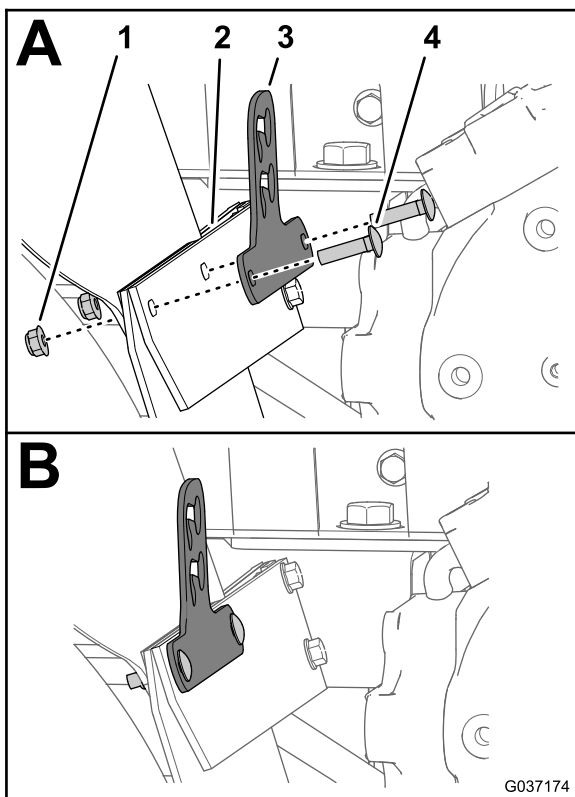

Figure 10
3. Assemble the valve bracket, fender strap, mud flap, and fender (Figure 10) with the 2 carriage bolts (5/16 x 1-1/4 inches) and 2 flange locknuts (5/16 inch).